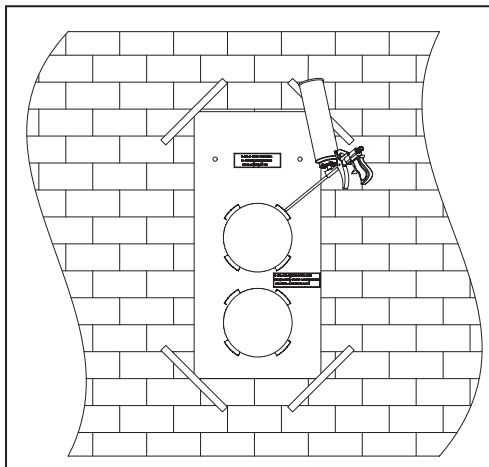

Fig. 7.
5. Inset the air ducts into the master plate holes and seal those with a mounting foam through the provided openings in the master plate, fig. 7. Install the air ducts sloped down by 2-3% outside to ensure the condensate drainage.
5. Insert the air ducts into the master plate holes and seal those with a mounting foam through the provided openings in the master plate, fig. 7. Install the air ducts sloped down by 3% outside to ensure the condensate drainage.
5. Insert the air ducts into the master plate holes and seal those with a mounting foam through the provided openings in the master plate, fig. 7. Install the air ducts sloped down by 3% to ensure the condensate drainage.